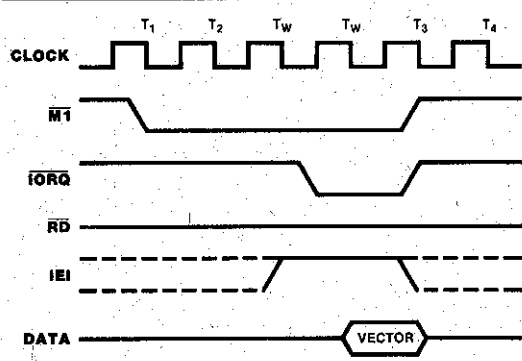

Figure 7. Interrupt Acknowledge Cycle
**Interrupt Acknowledge Cycle.** (Figure 7) After receiving an Interrupt Request signal ( $\overline{INT}$  pulled Low), the Z80 CPU sends an Interrupt Acknowledge signal ( $\overline{M1}$  and  $\overline{IORQ}$  both Low). The daisy-chained interrupt circuits determine the highest priority interrupt requestor. The  $\overline{IEI}$  of the highest priority peripheral is terminated High. For any peripheral